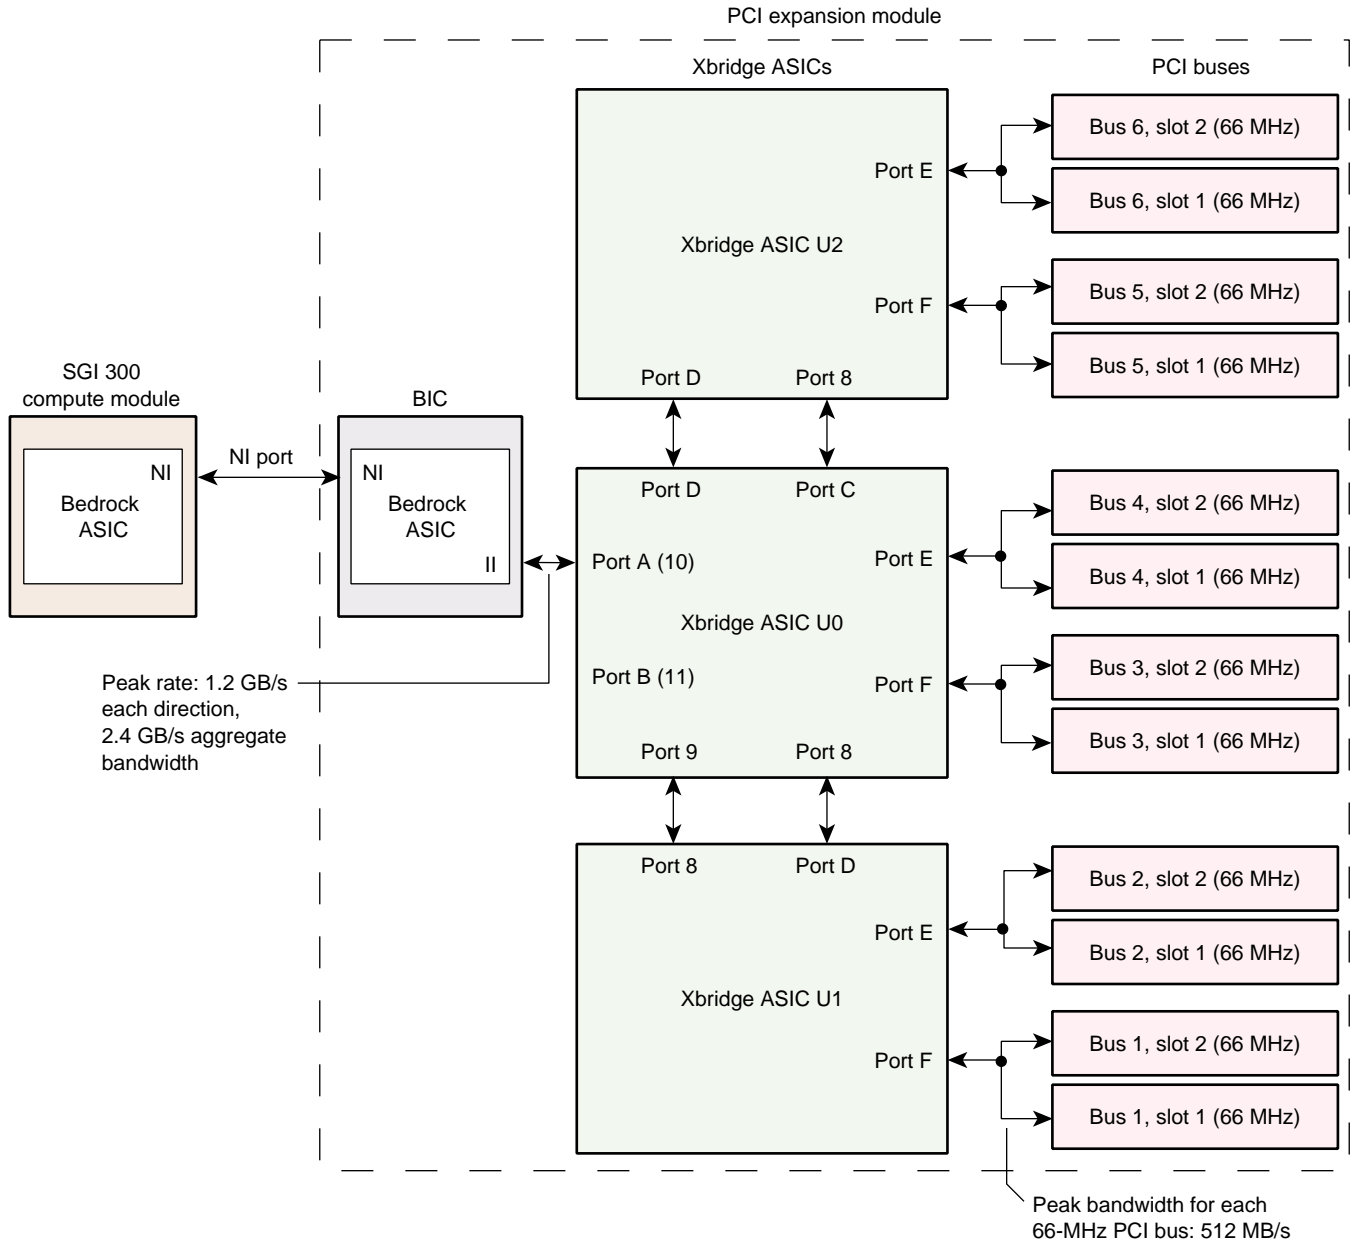

Figure 3-6 PCI Expansion Module Block Diagram
The Bedrock ASIC of the PCI expansion module also communicates with three 600-MHz Xbridge ASICs via its I/O interface (II) port. The Xbridge ASICs control the PCI buses (see Figure 3-6): Xbridge ASIC U0 is the interface between the Bedrock ASIC and the PCI slots of bus 3 and bus 4. Xbridge ASIC U0 is also the interface between the Bedrock ASIC and the Xbridge ASICs U1 and U2. Xbridge ASIC U1 controls bus 1 and bus 2, and Xbridge ASIC U2 controls bus 5 and bus 6.